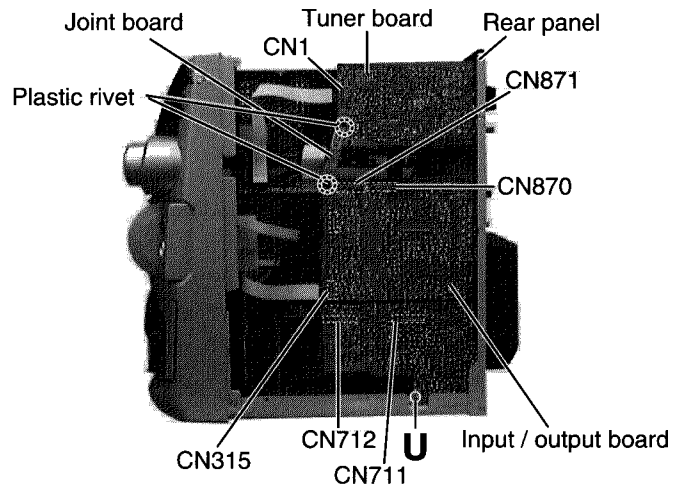

Fig.21
(See Fig.21 and 22)
8. Remove the tuner board in case of necessity (Refer to Fig.21).
1. Remove the input / output board (Refer to Fig.21 and 22).